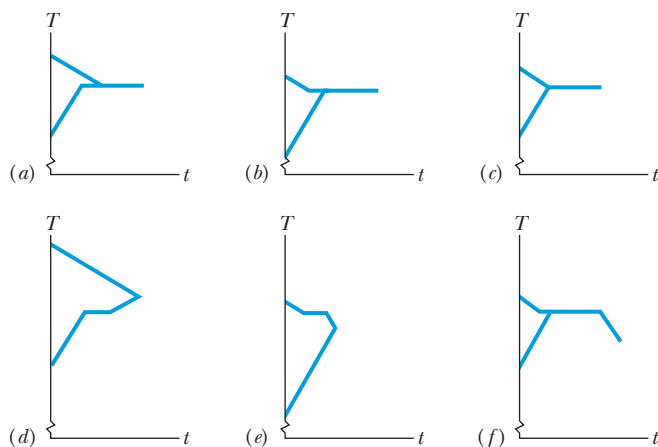

Figure 18-25 Questions 4 and 5.
**4** A sample *A* of liquid water and a sample *B* of ice, of identical mass, are placed in a thermally insulated container and allowed to come to thermal equilibrium. Figure 18-25*a* is a sketch of the temperature  $T$  of the samples versus time  $t$ . (a) Is the equilibrium temperature above, below, or at the freezing point of water? (b) In reaching equilibrium, does the liquid partly freeze, fully freeze, or undergo no freezing? (c) Does the ice partly melt, fully melt, or undergo no melting?
**5** Question 4 continued: Graphs *b* through *f* of Fig. 18-25 are additional sketches of  $T$  versus  $t$ , of which one or more are impossible to produce. (a) Which is impossible and why? (b) In the possible ones, is the equilibrium temperature above, below, or at the freezing point of water? (c) As the possible situations reach equilibrium, does the liquid partly freeze, fully freeze, or undergo no freezing? Does the ice partly melt, fully melt, or undergo no melting?